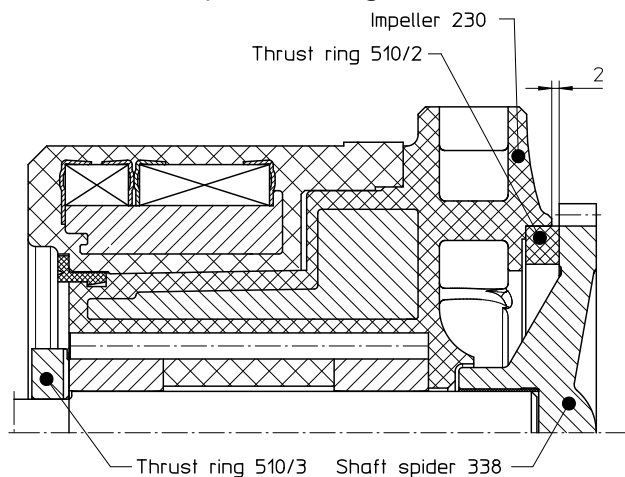

Fig. 9
- ◆ Check whether the thrust ring protrudes about 2 mm out of the impeller. See **Fig. 9**.